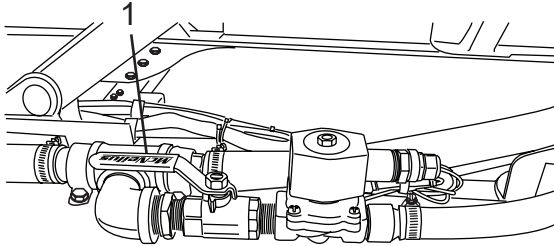

Figure 75
1. Open the water injection ball valve (Figure 75, Item 1).
4. Close the water injection ball valve (Figure 75, Item 1).